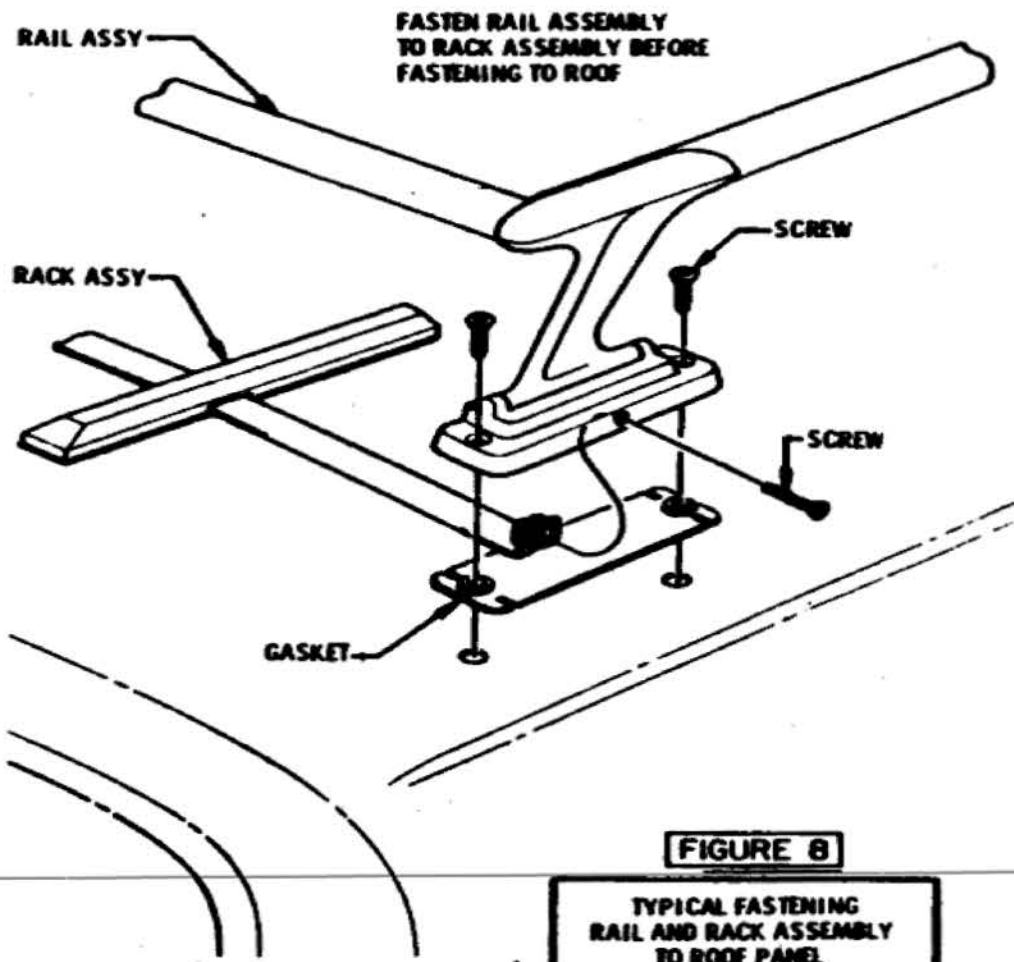

FIGURE 8
10. ASSEMBLE RAIL ASSEMBLY TO RACK ASSEMBLY, SEE FIG. 8.